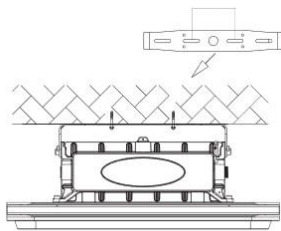

Figure 4
4. Tighten the screws. (Figure 4)